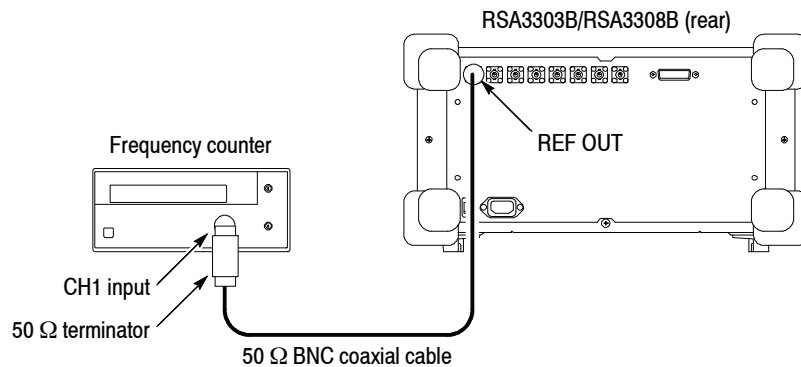

Figure 3-8: Initial test hookup
a. Hook up the frequency counter: Connect **REF OUT** on the rear panel of the analyzer through a 50 Ω precision coaxial cable and a 50 Ω precision terminator to Channel 1 of the counter. See Figure 3-8.